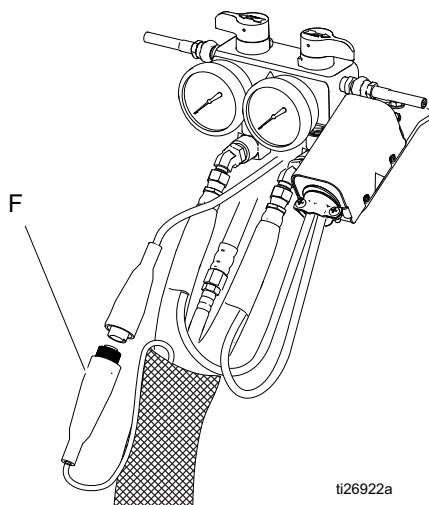

FIG. 11. Heated Hose
3. Disconnect FTS cable (F) at Reactor, FIG. 11.